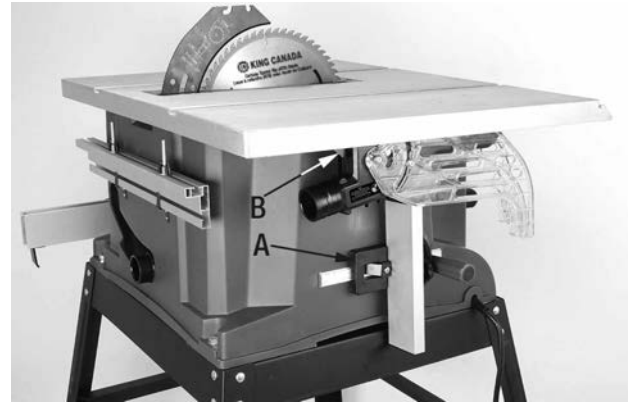

FIGURE 22
The rip fence and push stick storage areas are shown in (C) Fig.21. The aluminum guide storage area is shown in (D) Fig.21. See Fig.22 for the remaining storage areas.
The miter gauge storage area is shown in (A) Fig.22. The blade guard storage area is shown in (B) Fig.22.